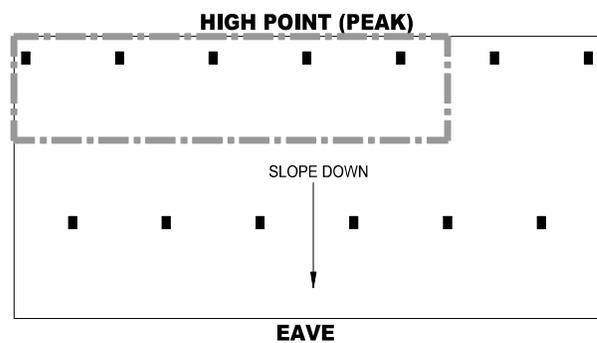

FIGURE 21C
- Calculation #2: Calculate the most hydraulically demanding 5 contiguous sprinklers along the high point. See Figure 21C.